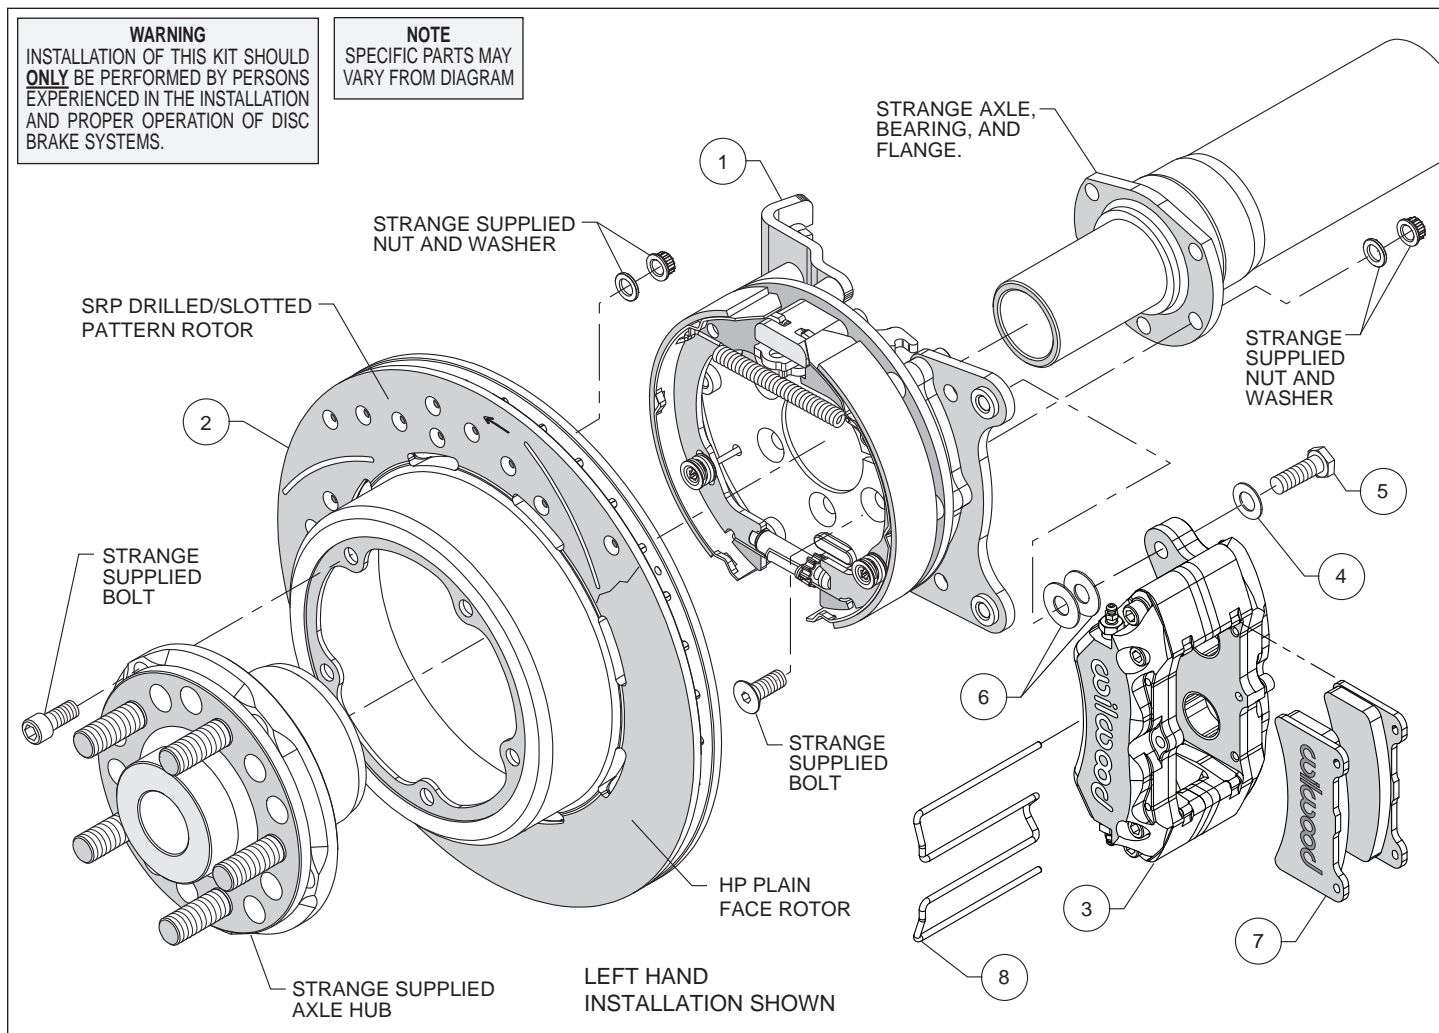

Figure 1. Typical Installation Configuration
Assembly Instructions (numbers in parenthesis refer to the parts list and Figure 1 on the preceding pages): **CAUTION:** All mounting bolts must fully engage clinch nuts. Be sure to check that all bolts are either flush or protruding through flanged side of clinch nut after shimming, Figure 3.
- Orient the bracket assembly (1) as shown in Figure 1 and slide it onto the axle. Ensure that the bracket assembly backing plate fits flush against the axle housing flange. Mount the bracket assembly to the axle flange using bolts, washers, and nuts (all Strange supplied) as shown in Figure 1. Apply red *Loctite*® 271 to the bolt threads and torque to Strange specifications.
- Orient the rotor (2) and the axle hub (Strange supplied) as shown in Figure 1. Attach the rotor to the axle hub using bolts, washers, and nuts (all Strange supplied) as shown in Figure 1. Apply red *Loctite*® 271 to the bolt threads and torque to Strange specifications.
- Slide the rotor/hub assembly onto the axle as shown in Figure 1 and secure per Strange specifications.
- NOTE:** Please reference the caution statement at the beginning of the assembly instructions. Mount the caliper (3) onto the caliper mounting bracket (1) using bolts (5) and washers (4), as shown in Figure 1. Initially place two .035" thick shims (6) on each bolt between the caliper and the bracket, Photo 1. Temporarily tighten the mounting bolts and view the rotor (2) through the top opening of the caliper. The rotor should be centered in the caliper, Photo 2. If not, adjust by adding or subtracting shims between the bracket and the caliper. Always use the same amount of shims on each of the two mounting bolts. **NOTE:** The end of each bolt must be flush with or slightly protruding from the head of the clinch nut, as shown in Figure 3. If necessary place spare shims between washer (4) and caliper mounting ear to achieve the proper clinch nut engagement. Once the caliper alignment and clinch nut engagement are correct, remove the bolts one at a time, apply red *Loctite*® 271 to bolt threads, and torque to 40 ft-lb.
- Install the disc brake pads (7) into the caliper, with the friction material facing the rotor (2), and secure in place using the pad clip retainer (8), Photo 3.
- Before final installation of the wheel, remove the rubber grommet in the bracket kit assembly (1) and adjust the parking brake shoes outward (using a drum shoe adjustment tool available at your local auto parts store) while spinning the rotor/hub (2) until a slight drag is felt against the hat/drum. Replace the rubber grommet when finished.